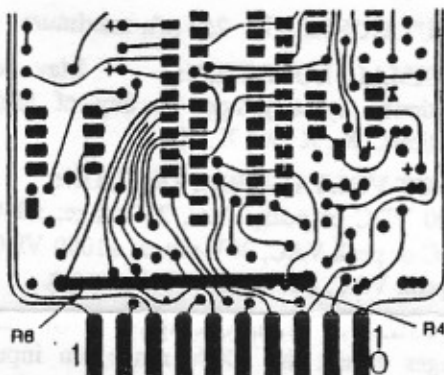

Figure 4. Component Location
3. Observe resistor values for R4 and R6 and compare to Table I and Figure 4. Install resistors of values specified in Table I to obtain desired range.